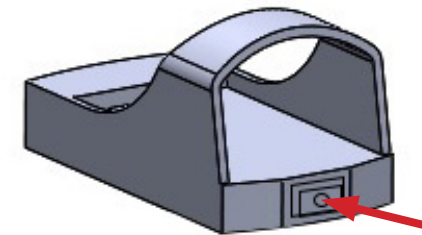

Fig. b-1
1. To turn the DTRO on, press the button at the front of the optic. To turn it off, press and hold the button for approximately two seconds. (Fig. b-1)